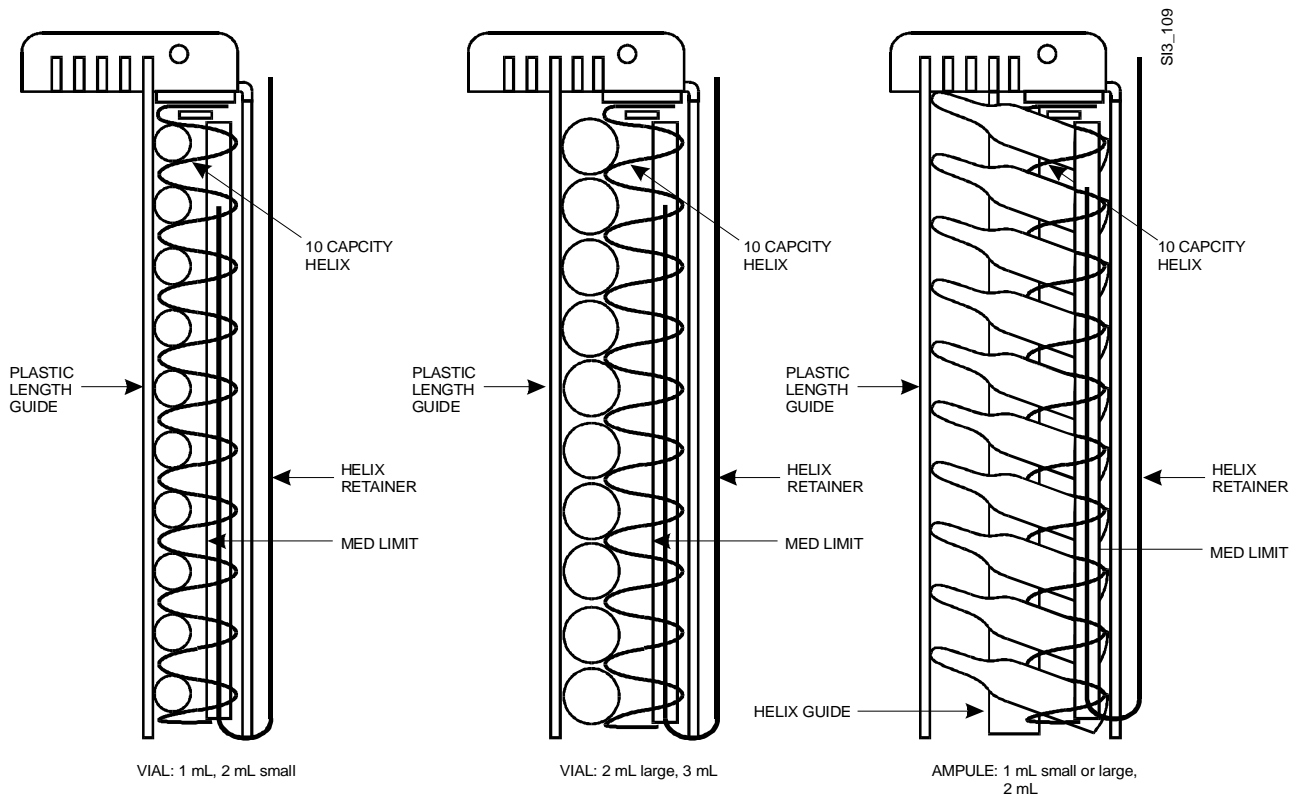

Figure 1 Kit 19-040069-000A Example Arrangements
Figures 1, 2, 3, and 4 show the four kit configurations and some of the various arrangements that can be obtained with these kits. If enough dispensing position space is available, any kit combination can be arranged on an oral dispensing shelf.
9. Install a helix retainer as shown in Figure 1, 2, 3, or 4, and note the following information: